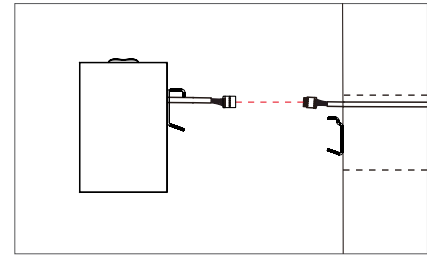

FIGURE 1-4
- 5) Make wiring connections. Insert AC wires, dimming wires, and ground wire into the male quick connector "E" (Figure 1-4)
- 6) Make connection between male and female quick connects. Hide all wires in the junction box. (Figure 1-4)